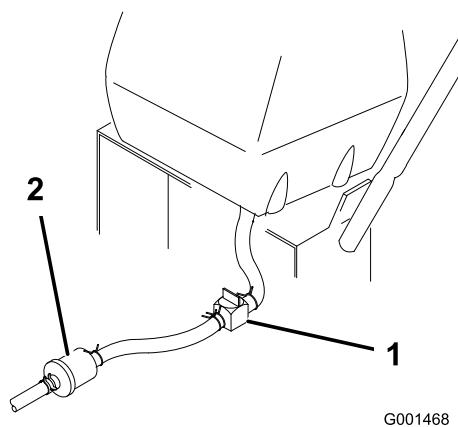

Figure 30
3. Close the fuel-shutoff valve at the fuel tank (Figure 30).
4. Squeeze the ends of the hose clamp together and slide it up the fuel line away from fuel filter (Figure 30).
5. Pull the fuel line off the fuel filter (Figure 30). Open the fuel-shutoff valve and allow the fuel to drain into a fuel can or drain pan.
7. Open fuel-shutoff valve at fuel tank (Figure 30).
3. Close fuel-shutoff valve at the fuel tank (Figure 30).